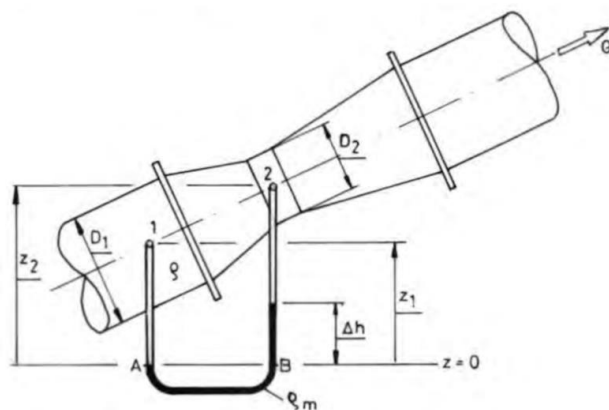

Figure 7
- (b) A venturi meter and manometer can typically be used to measure volume flowrate. An apparatus as shown in **Figure 7** consisting of a venturi meter and manometer was installed in the hydraulic laboratory. Determine the volume flowrate for the manometer reading Δh . It is given that D_1 , D_2 , Z_1 , Z_2 and Δh is 225 mm, 165 mm, 1.2 m, 1.75 m, and 0.35 m, respectively. The density of the flowing liquid and mercury is 1000 kg/m^3 and 13600 kg/m^3 , respectively.